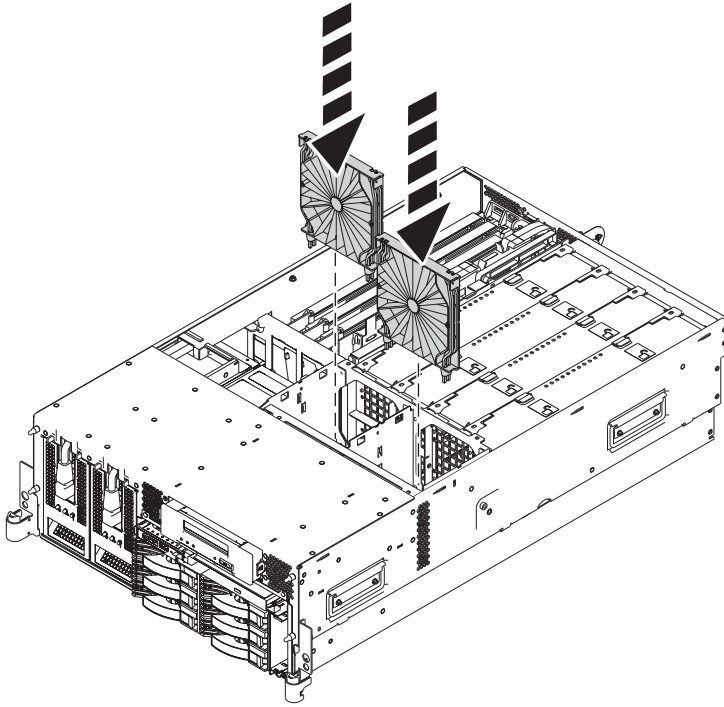

Figure 17. Installing the air baffles
- a. Lower the air baffles into their location in the fan cage. See Figure 17 on page 22.